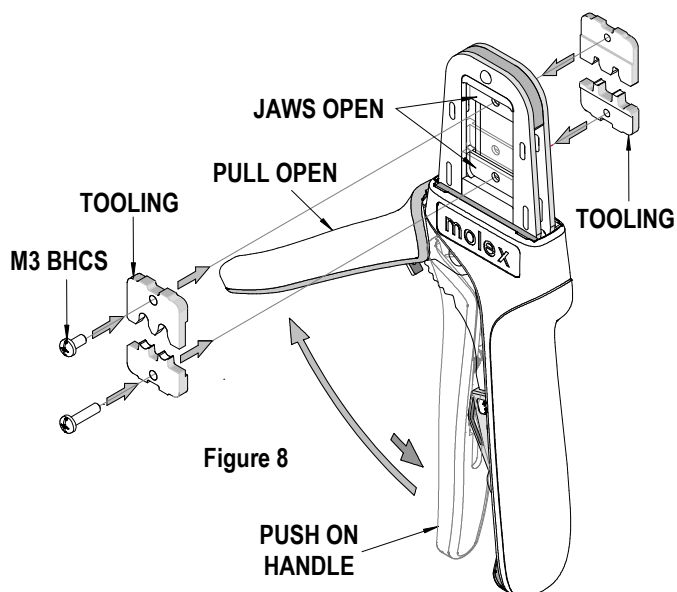

Figure 8
3. Flip the upper tooling to the opposite side and replace the M3 BHCS. Make sure the small markings on the front and back of the hand tool frame, match up and are on the outside of the hand tool frame. See Figure 8 and 9.